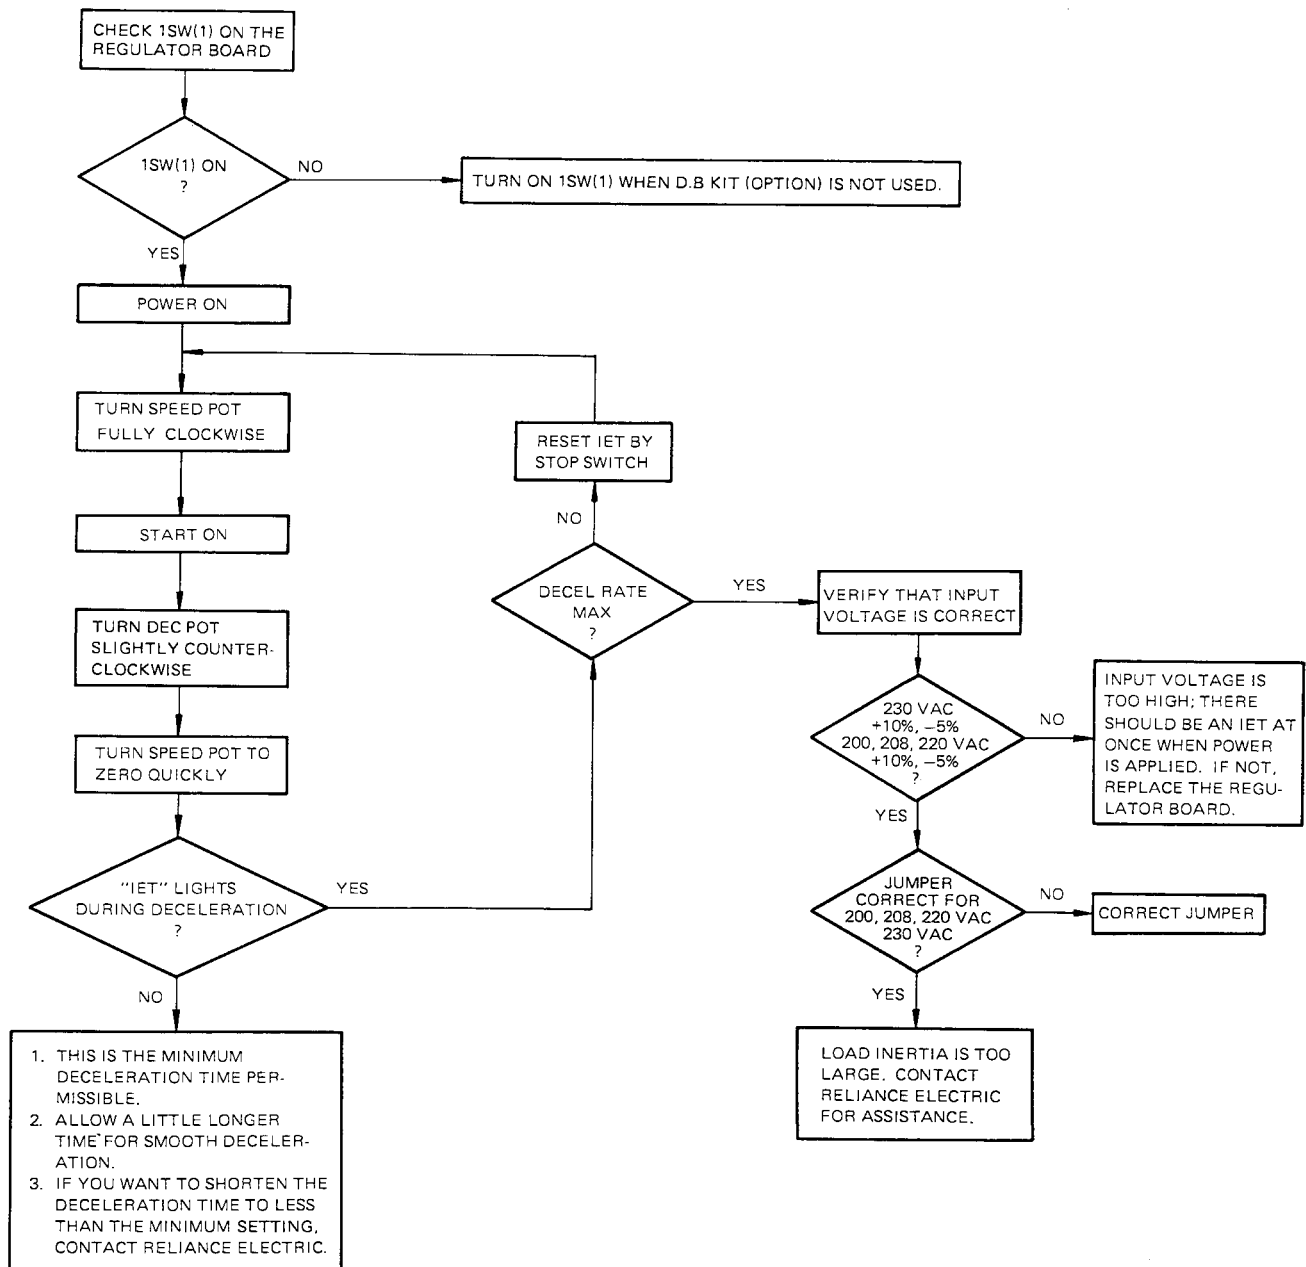

Figure 4-3. Controller IET during controlled deceleration.
3. Controller has IET during controlled deceleration (**Figure 4-3**).